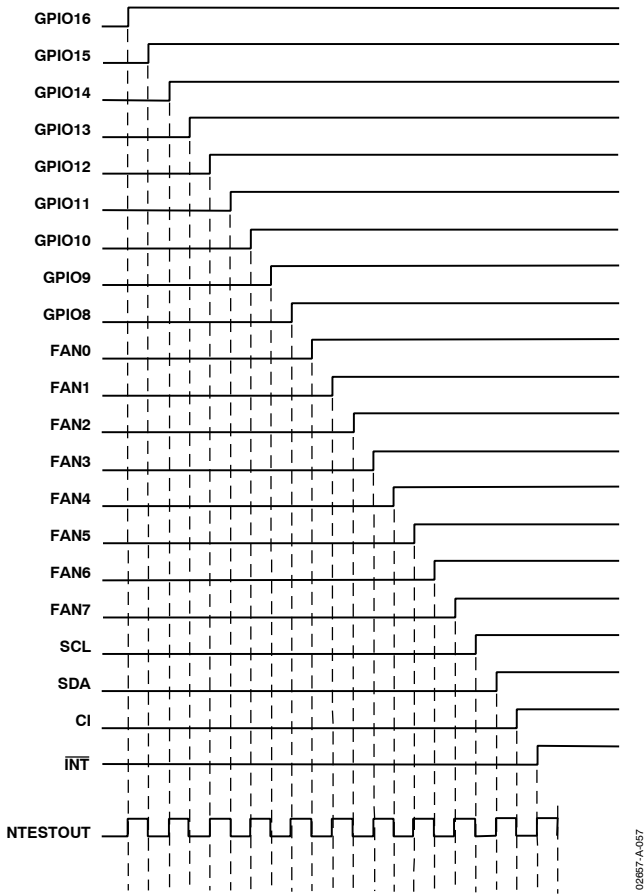

Figure 57. NAND Tree Test Taking Inputs High in Turn
1. Start with all inputs low and take them high in turn, starting with the input nearest to $\overline{\text{NTEST_OUT}}$ ($\overline{\text{GPIO16/THERM}}$) and working back up the tree to the input furthest from $\overline{\text{NTEST_OUT}}$ ($\overline{\text{INT}}$). This should give the characteristic output pattern shown in Figure 57, with $\overline{\text{NTEST_OUT}}$ toggling each time an input is taken high.